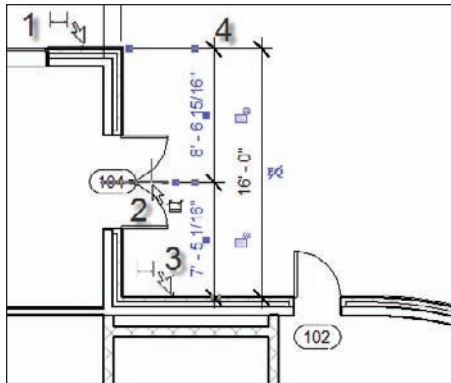

FIGURE 5.7 Adding a dimension string manually
- b. Pick the centerline of the door, as shown in Figure 5.7, but do not press Esc, or terminate the command.
- c. Pick the horizontal wall that ties into the radial wall, illustrated as “3” in Figure 5.7.
- d. Pick a point inside (to the left of) the first dimension, as shown in Figure 5.7. This will place the dimension string and finalize the session.
You will now see that the actual dimension values are blue. Also, you will see a blue EQ icon with a dash through it. (Refer back to Figure 5.7.)